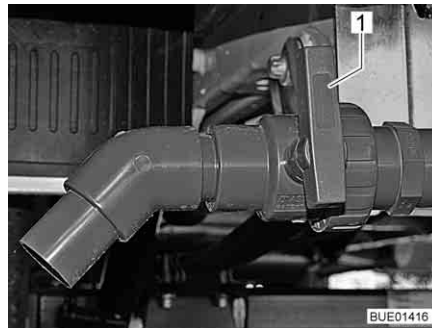

Fig. 228 Drain cock
- Turn the handle (Fig. 228,1) of the drain cock in flow direction.